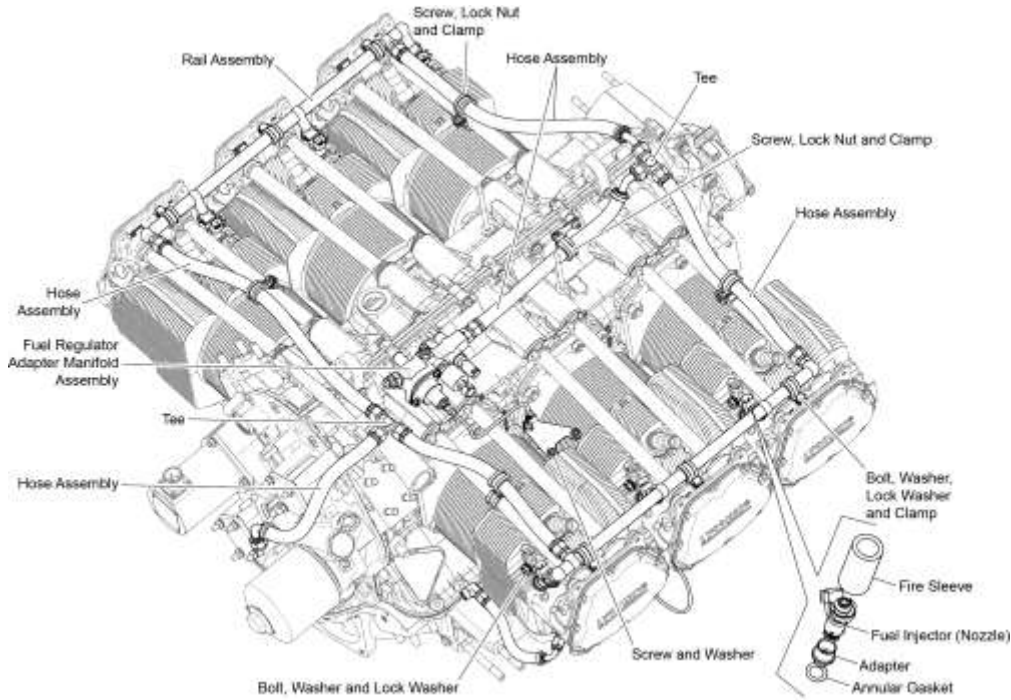

Figure 1
- C. Examine the two fuel injector rail assemblies (Figure 1) for damage, leaks, and loose fittings or connections. Tighten any loose fittings or connection in accordance with the Standard Torque Tables in the latest revision of the *Service Table of Limits - SSP-1776*. Replace a damaged fuel injector rail assembly per the “Fuel Injector Rail Assembly Replacement” section in this chapter.
- E. Examine the fuel injector and fire sleeves (Figures 1 and 9) for damage, leaks, and loose fittings or connections. If the fuel injector fire sleeves are damaged, replace them. Tighten any loose fittings or connection in accordance with the Standard Torque Tables in the latest revision of the *Service Table of Limits - SSP-1776*. Replace a damaged fuel injector per the “Fuel Injector Replacement” section in this chapter.